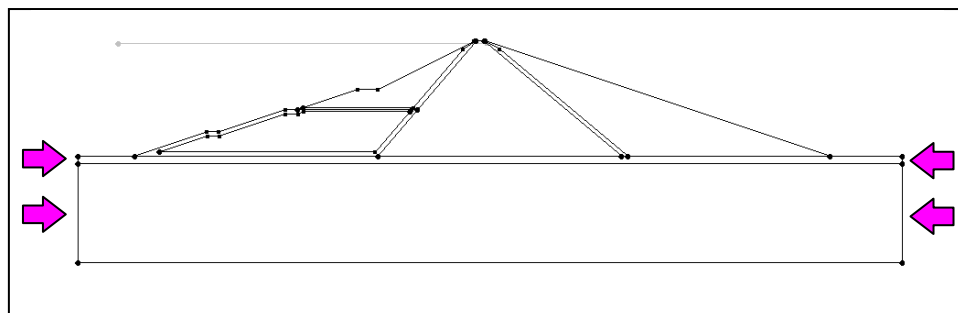

Figure 9. Closing the Bottom Zone Polygons.
2. Create four arcs, two on the left and two on the right of the model by clicking on the ends of the existing arcs to connect the nodes, as shown in Figure 9 below.